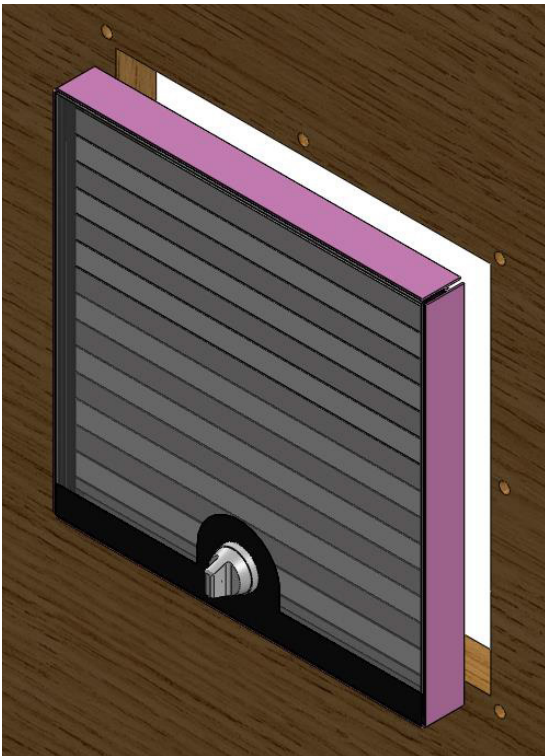

Fig. 6.
14. place the panel into the door [Fig. 6.] in the customer specified orientation (which operator is to the corridor). Support the panel from both sides of the door before surround is fitted.